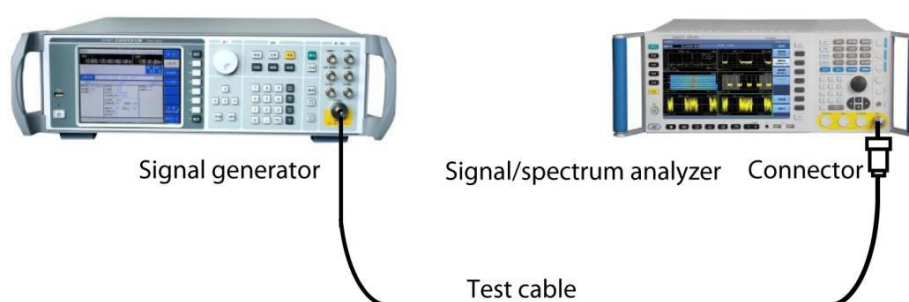

Fig. 4.82 Connection Settings of Spectral Emission Mask Measurements
Step 2: Connect the radio frequency output port of the signal source to that of the analyzer. As shown in Fig. 4.82: